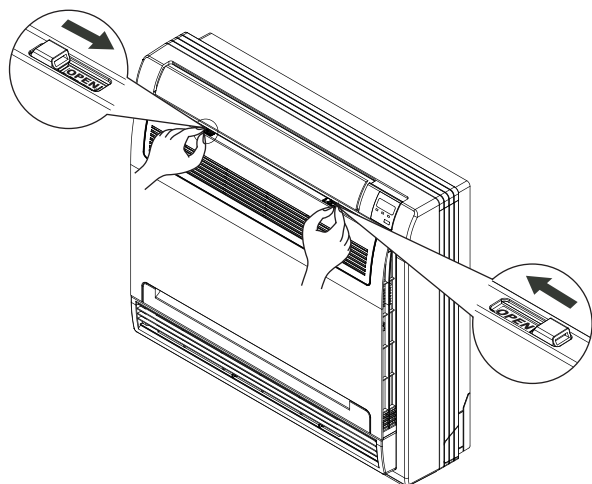

Fig.7-1
- Slide the two stoppers on the left and right sides inward until they click. (Refer to Fig.7-1)